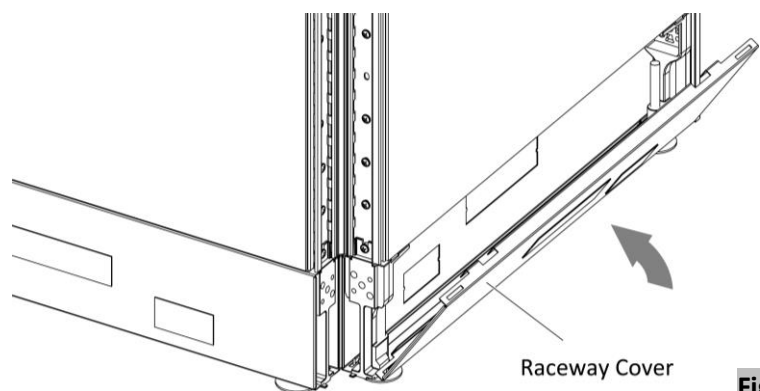

Figure 2
- 2. Raise the raceway cover and push gently to click, (Figure 2).